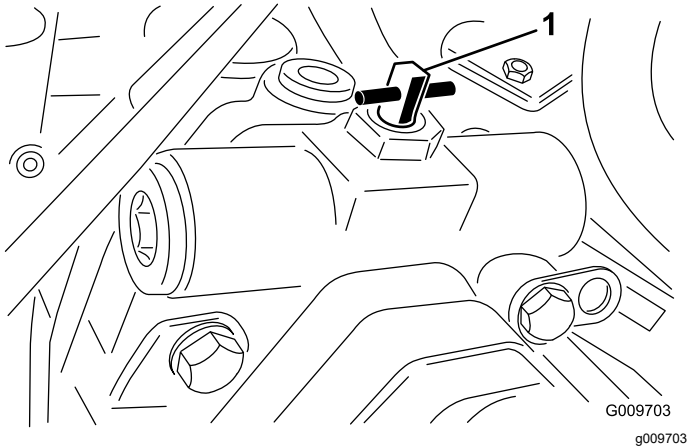

Figure 90
7. Open the tow bypass valve of the traction pump by rotating it 90° (1/4 turn) in either direction (Figure 90).
2. Open the tow bypass valve of the traction pump by rotating it 90° (1/4 turn) in either direction (Figure 90).